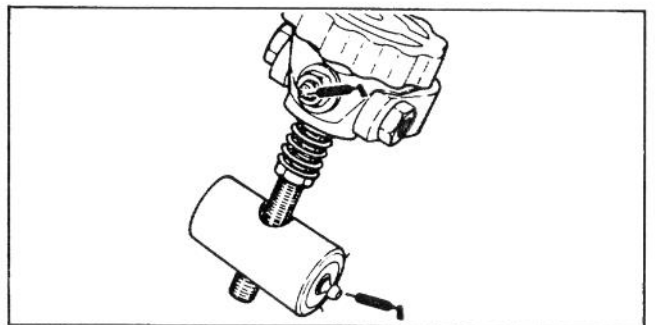
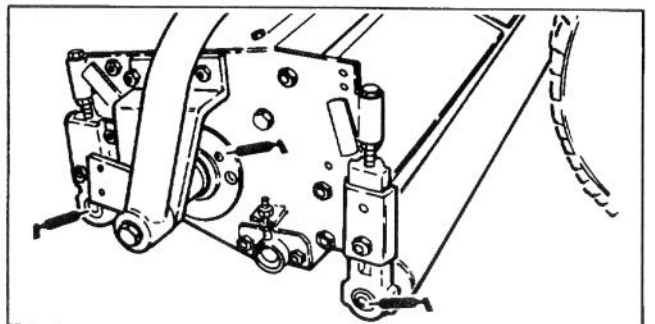

Figure 33
Figure 34
The cutting unit lubrication points are: Single point adjustment knob (2) (Fig. 33), reel flange bearing (2) (Fig. 34) and front and rear rollers (Fig. 34).